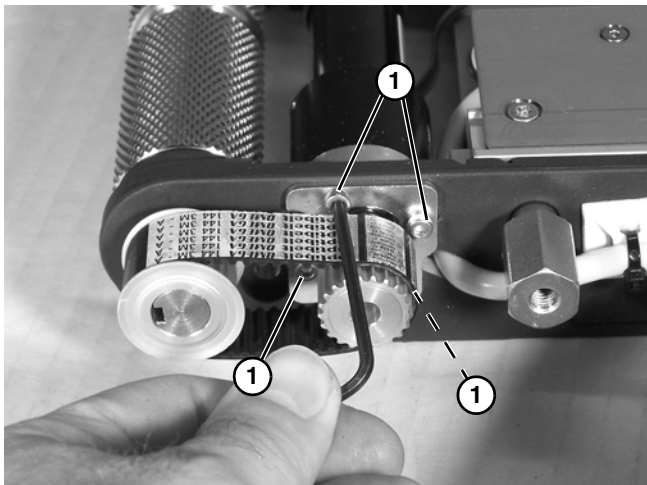

Figure 50
4. Loosen four clamp plate screws (**Figure 50, item 1**).